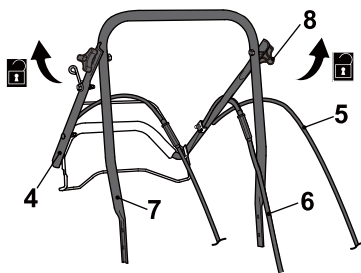

Fig. 2
2. Ensure that the levers (8) are released and unfold the upper (4) and lower handle bar (7) (Fig. 2).